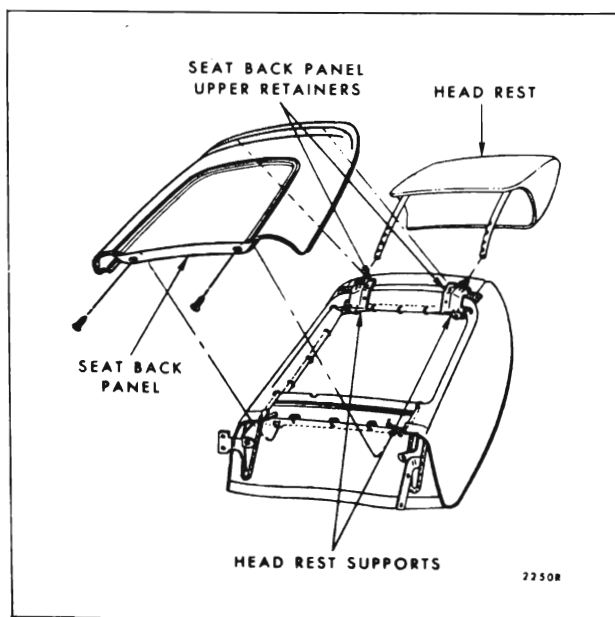

Fig. 15-33—Strato Seat Back Panel and Headrest
2. Remove two screws securing bottom of seat back panel to seat back frame (Fig. 15-33).
3. Tilt seat back forward and remove two screws securing bottom of seat back panel to seat back frame (See Fig. 15-33).